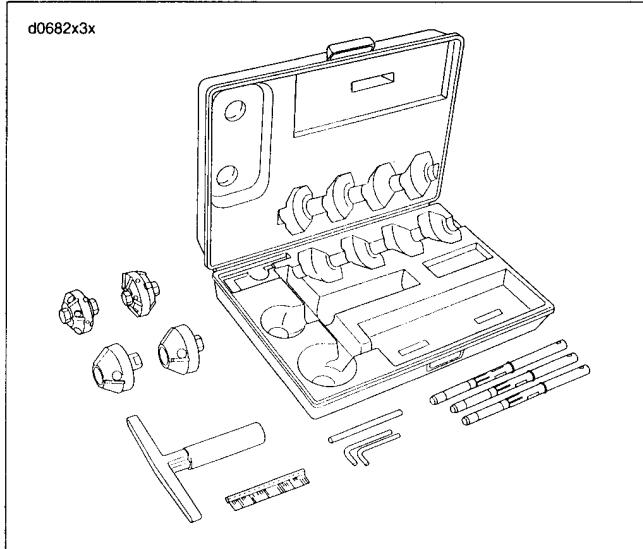

Figure 3-101. Neway Valve Seat Cutter Set
7. See Figure 3-101. Obtain the NEWAY VALVE SEAT CUTTER SET (Part no. HD-35758-B). Choose the cutter pilot that fits properly into the valve guide hole. Securely seat the pilot by pushing down and turning using the installation tool supplied in the tool set.